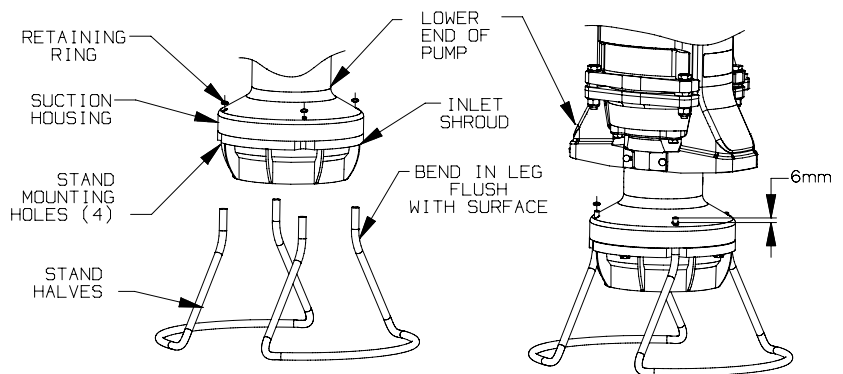

Fig. 8 - Pump Stand Installation
12. Grinder Pump Stand Assembly (Figure 8)